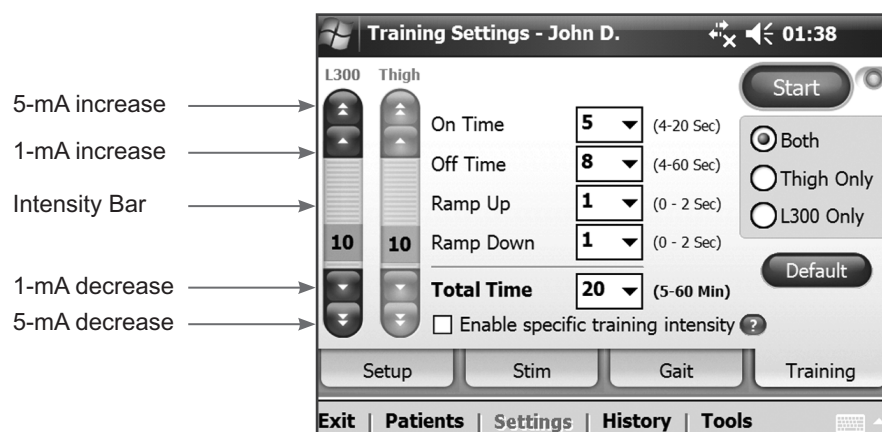

Figure 7-29: Training Settings window.
1. Press the **Training** tab to open the Training Settings window. See Figure 7-29.